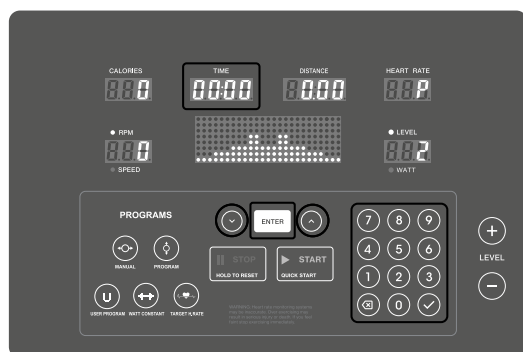

FIGURE 9
- 4.1. Optional: Set time, distance, and calories using the arrow keys or keypad (Figures 9–11).